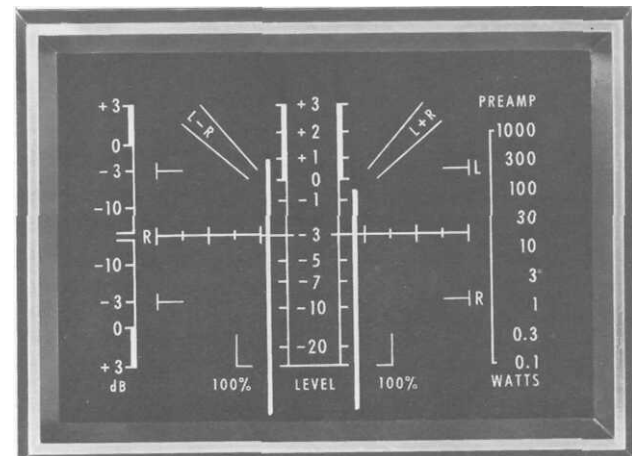

FIG. 12 LEVEL DISPLAY OF L & R CHANNEL
19. Adjust the front panel POWER LEVEL knob to obtain the pattern shown in Figure 12.